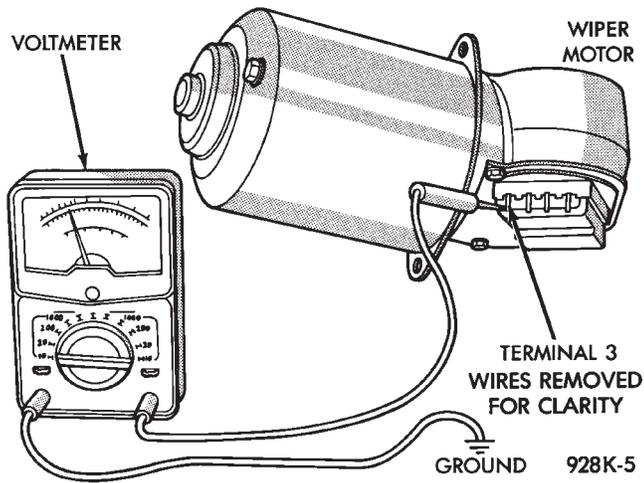

Fig. 10 Voltmeter Between Terminal 3 and Ground
- (1) Check for a blown fuse in the fuse block.
- (2) Place switch in LOW speed position.
- (3) Listen to motor. If you cannot hear it running, proceed to Step 4. If you hear it running, check motor output shaft. If output shaft is not turning, replace motor assembly. If it is turning, drive link to output shaft or linkage is not properly connected. Replace worn parts and/or properly connect drive link to the motor output shaft.
(4) Connect a voltmeter between motor terminal 3 and ground strap (Fig. 10). If there is no voltage or very little voltage (less than one volt) present, move negative test lead from the ground strap to negative battery terminal.